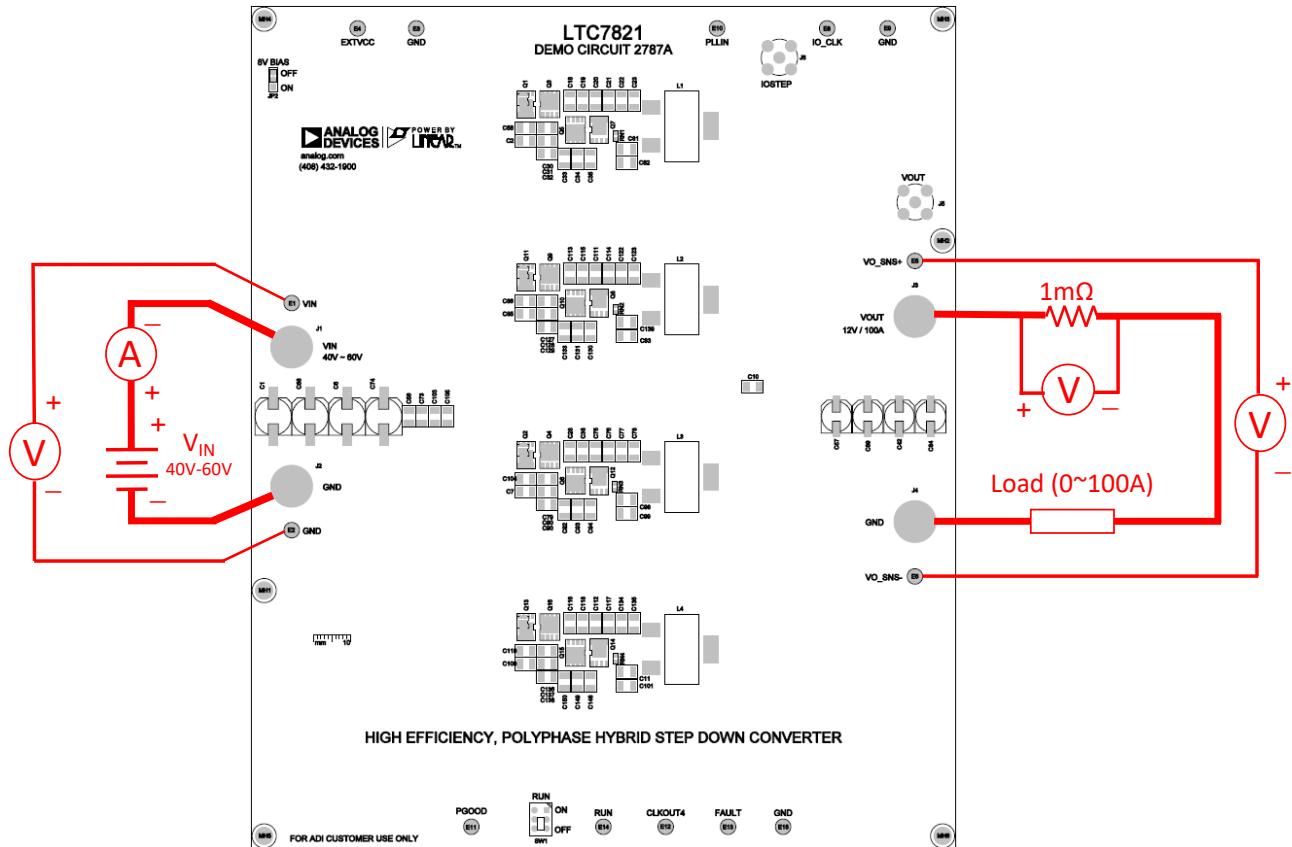

Figure 2. Proper Measurement Equipment Setup
Demonstration circuit 2787A is easy to set up to evaluate the performance of the LTC7821. Refer to Figure 2 for the proper measurement equipment setup and follow the procedure below.
2. Connect the output loads between  $V_{OUT}$  and GND (**Initial load: no load**). Refer to Figure 2.